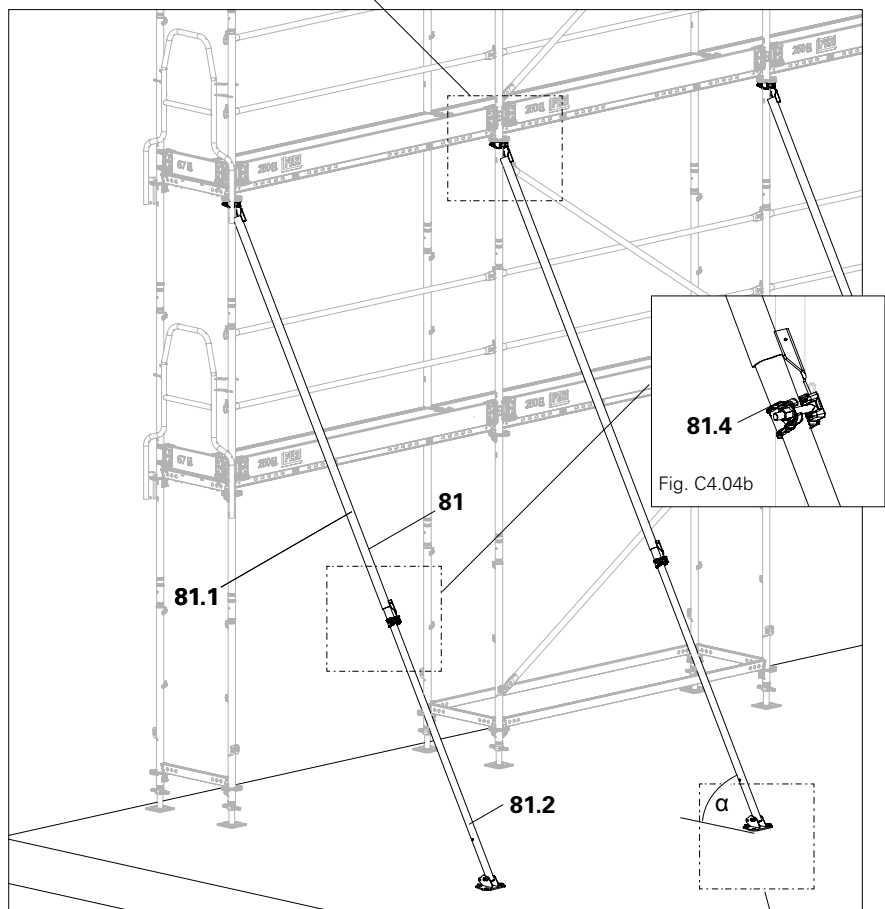

Fig. C4.04
- The multi brace is now installed (Fig. C4.04)